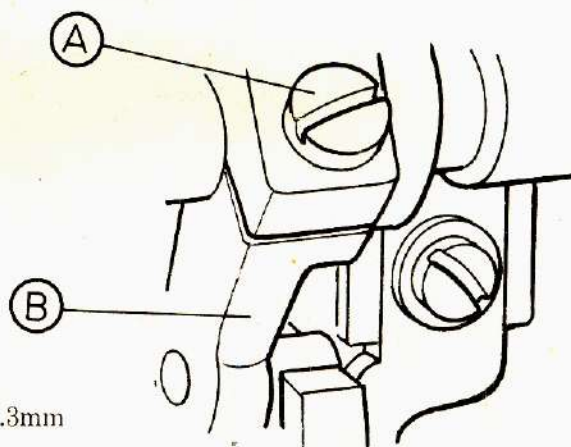

Fig.27
To adjust the height of the feed dog, loosen the screw (A), then turn the feed lifting rock shaft crank (B), and regulate the height of the feed dog to the specified value and then tighten the screw (A) (fig 27).